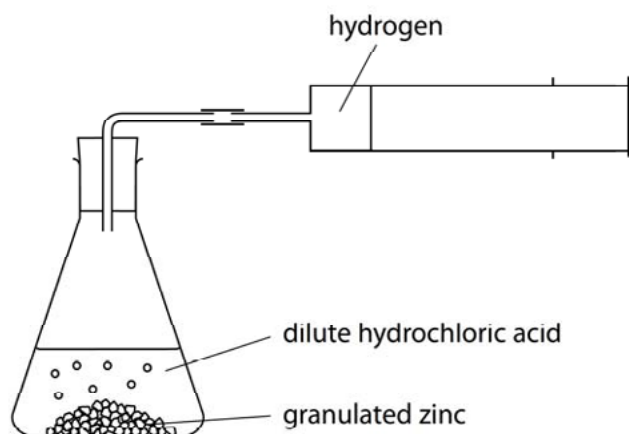

Figure 6
- 5 A student used the equipment in Figure 6 to investigate the rate of reaction between zinc and excess dilute hydrochloric acid.